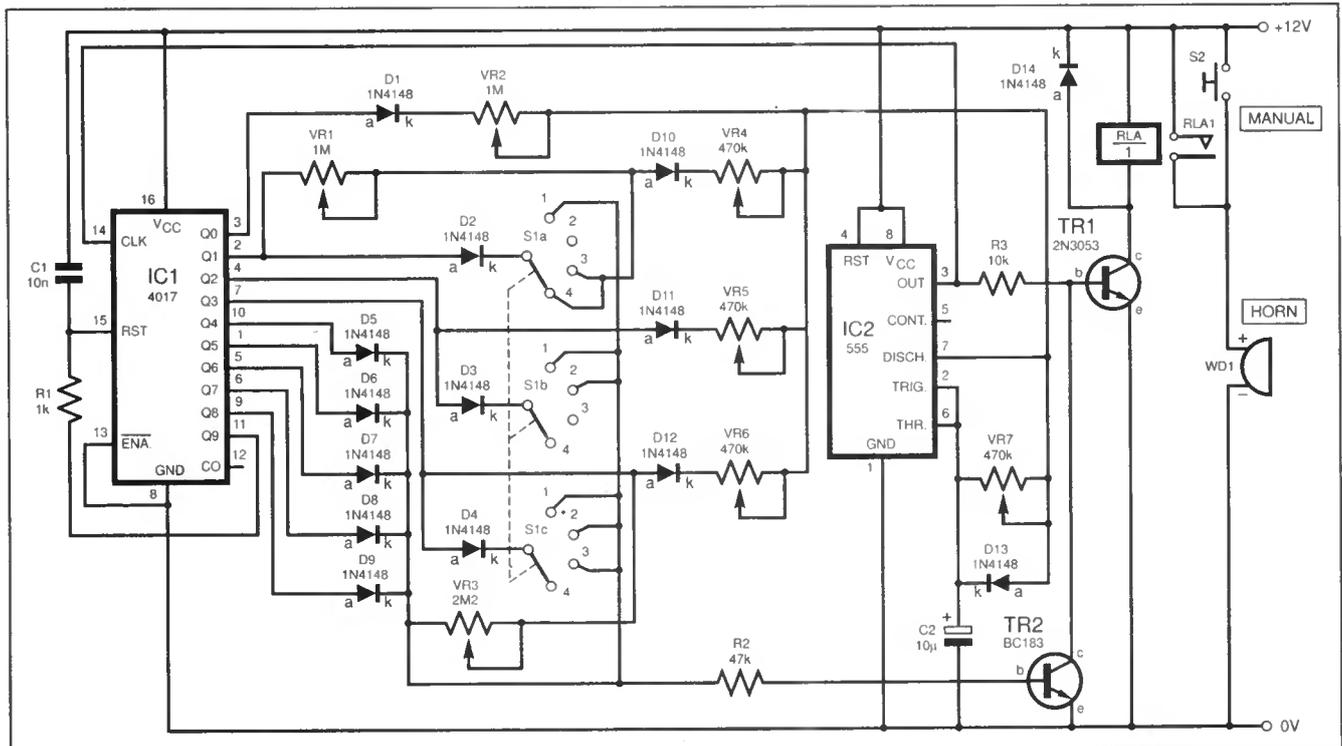

Fig.4. Circuit diagram for a Foghorn Timing Switch.
**T**HE CIRCUIT illustrated in Fig. 4 was designed to sound a foghorn signal every two minutes as laid down in Rule 35 of the *International Regulations for Preventing Collisions at Sea, 1972*, and includes the following four signals: